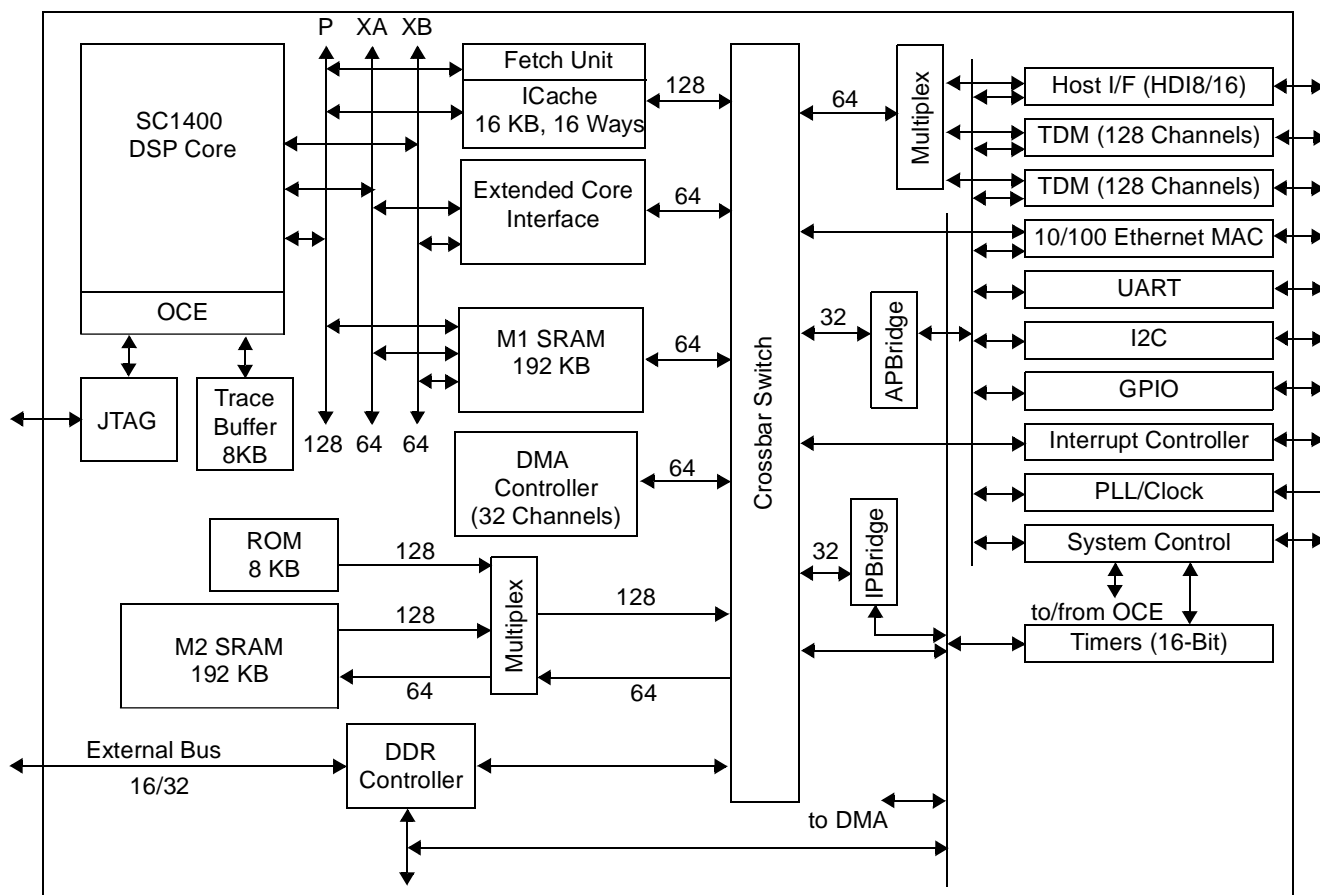

Figure 2. MSC7116 Buses
The extended core runs at the core speed—for example, 300 MHz. Only one core clock cycle is required to read from the instruction cache (ICache), write into the write buffer (WB), and read/write into M1. All modules in the data transfer and peripheral blocks run at the core clock divided by 2. For example, in a 300 MHz core, DDR is clocked at 150 MHz. This is called the bus clock. The core performs a single read or write access from M2 using 7–9 core clock cycles. For eight consecutive read or write accesses, access time is reduced to an average of five core clock cycles per access. Depending on the peripheral used, the core can read or write 5–10 core clock cycles. The ICache can read from M2 on the average of two core clock cycles per access. **Figure 2** shows the MSC7116 internal buses and their widths.